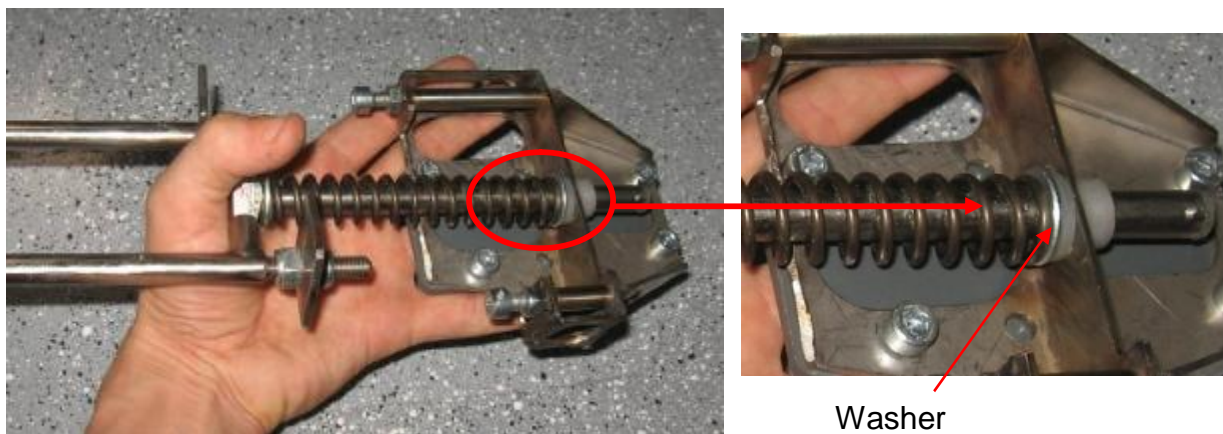

Fig. 14
Insert rear guide of the rudder centering fork to the new fork stop system cage as shown in Fig 14.
Warning: Install one (1) washer between the spring and polyamide bush (Fig. 14)